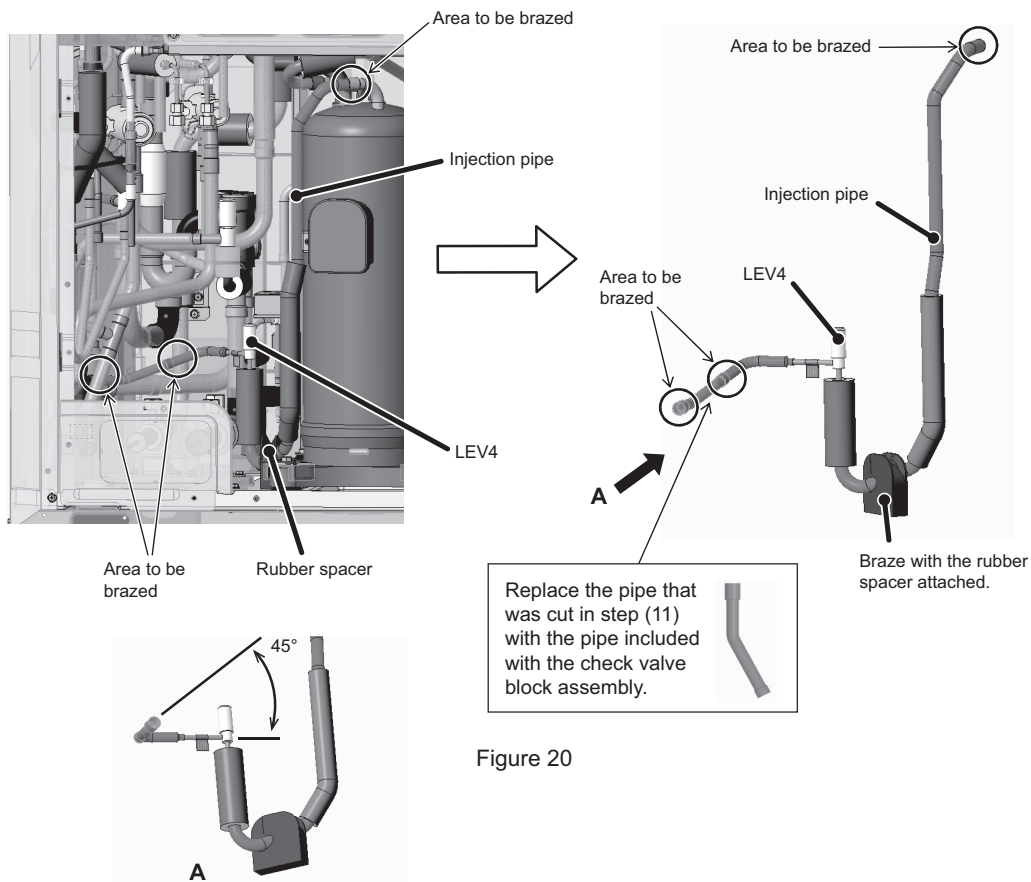

Figure 20
(20) Re-place the LEV4 assembly that was removed in step (11) as it was. (3 areas to be brazed. See Figure 20.)